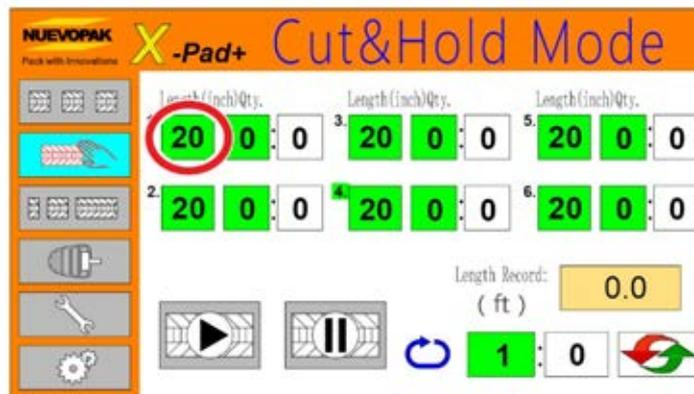

Figure 35 Change Pre-Set Output Length - Cut & Hold Mode
1. Select the Cut & Hold Mode in the Menu Bar (refer to Figure 35).